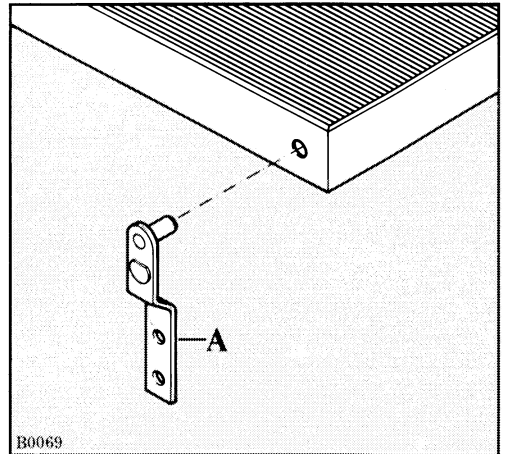

Fig. 3
- b) Remove the bottom hinge (A - Fig. 3) and refit it on the opposite side.